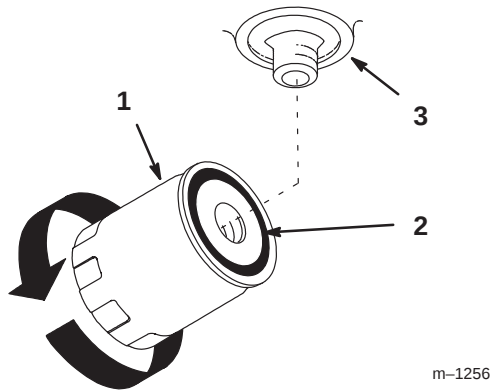

Figure 37
- Apply a thin coat hydro fluid to the rubber gasket on the replacement filter (Fig. 37).
- When fluid overflows filter turn the oil filter clockwise until the rubber gasket contacts the filter adapter, then tighten the filter an additional 1/2 turn (Fig. 37).